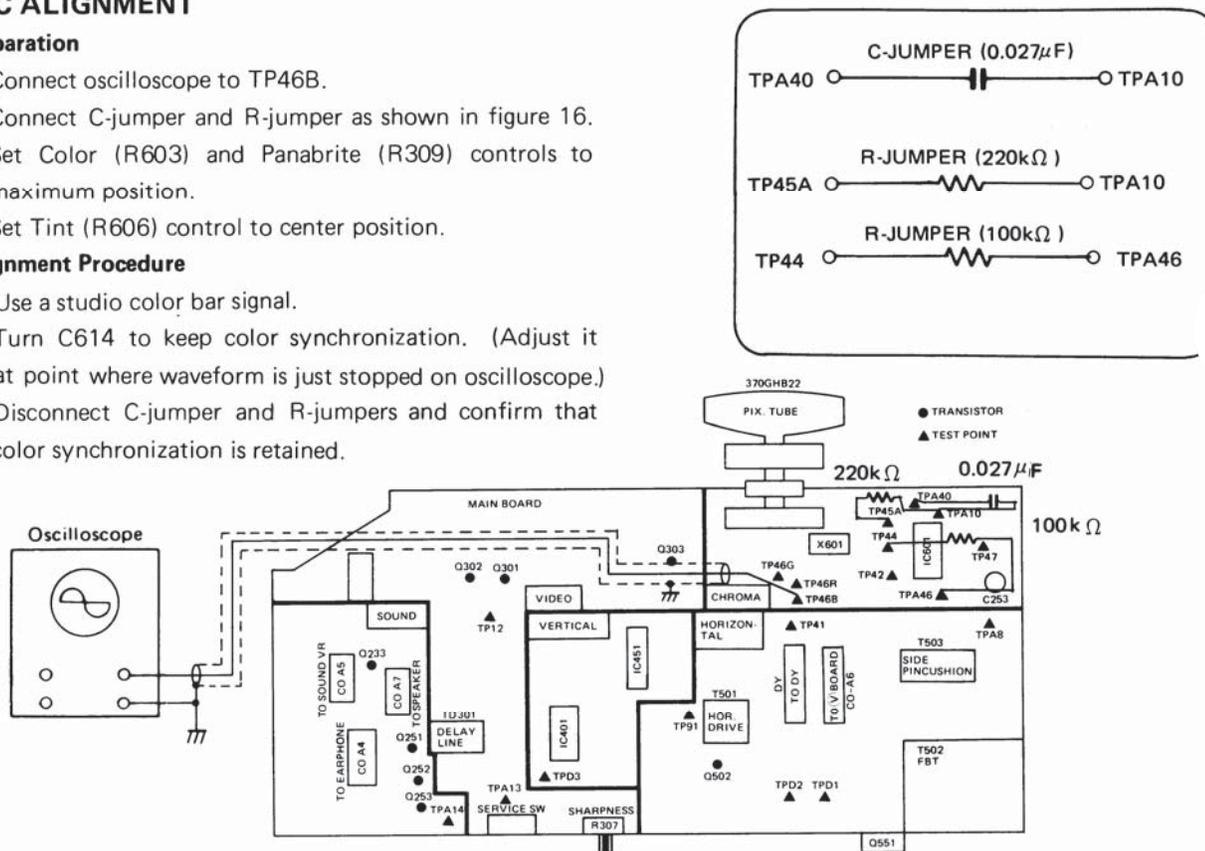

Figure 16
2. Connect C-jumper and R-jumper as shown in figure 16.